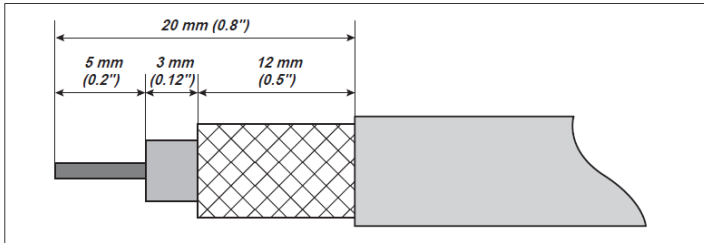

Figure 1
1. Cut the end of the coax cable to the dimensions shown Figure 1.